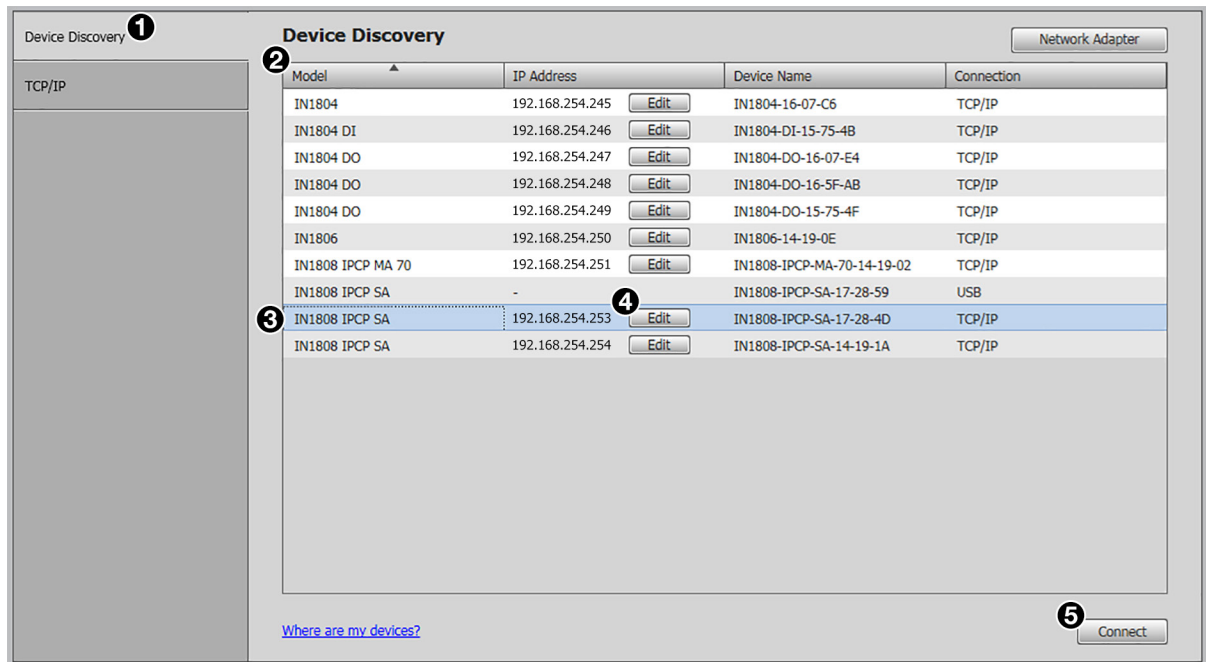

Figure 35. Device Discovery Screen
1. Click the **Device Discovery** tab (see figure 35, ❶).
2. Click the desired column heading (❷) to sort it in ascending or descending order.